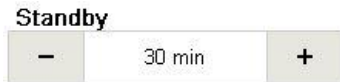

Figure 103
**Standby:** Set the period of inactivity, after which the display will turn off. Pressing the screen or the **Front key** will awaken the device (Figure 103).